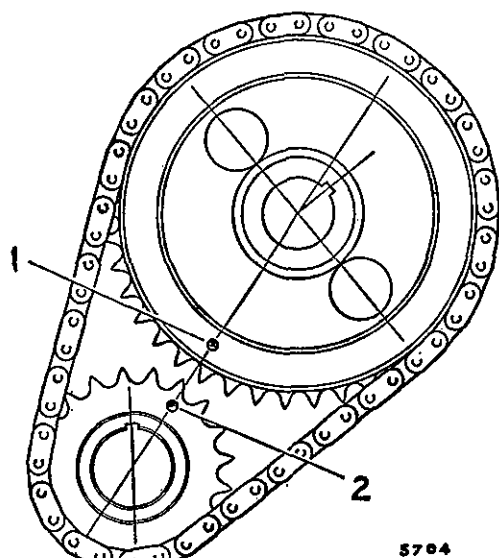

Fig. A.13
- (6) Place the crankshaft gear packing shims in position and turn the shaft to bring the key to the top.
- (7) Bring the camshaft keyway to the position shown in Fig. A.13 (approx. 1 o'clock).
- (8) Assemble the two wheels in the chain with the marks opposite each other as in Fig. A.13. Push the wheels onto the shafts, turning the camshaft slightly as required to line up the key. Push the wheels as far as they will go and secure the camshaft gear with the lock washer and nut.
- (9) Check the alignment of the wheels by placing a straight-edge across the teeth of the camshaft and crankshaft gears and measuring the gap between the straight-edge and the crankshaft gear. Adjust with shims behind the crankshaft gear as required.
- (10) Refer to Section A.15 'Refitting', items (5) to (11).